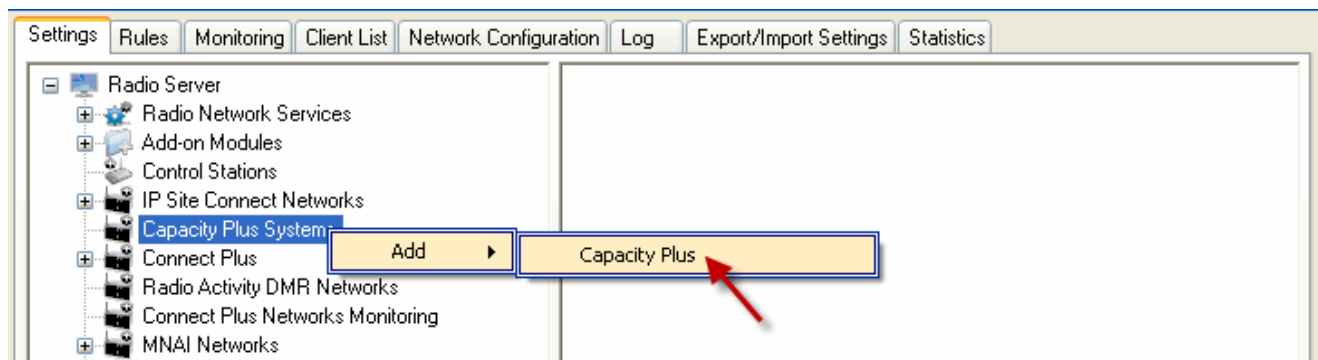

Fig. 30 - Adding Capacity Plus system
2. To add a new Capacity Plus system right-click on **Capacity Plus System** in the setting tree of the **Settings** tab and chose **Add** (Fig.30).